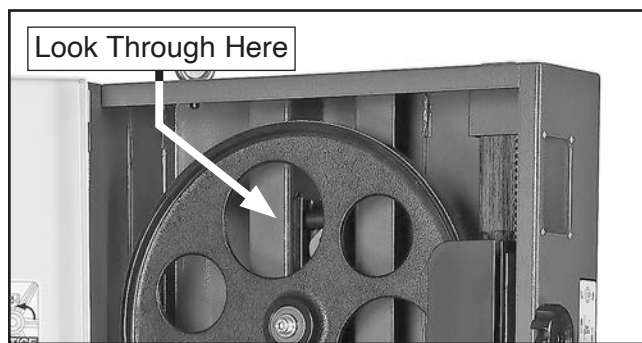

Figure 90. Location of blade tension adjustment assembly.
2. Open upper wheel cover and look through top of wheel (see **Figure 90**).